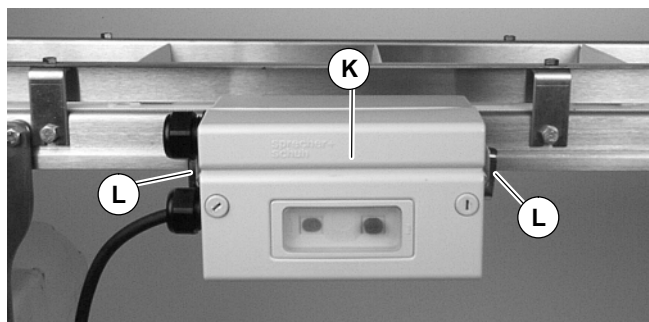

Figure 13
11. Attach motor starter (K of Figure 13) to clips with screws (L). Tighten to 92 in-lb (10.4 Nm).